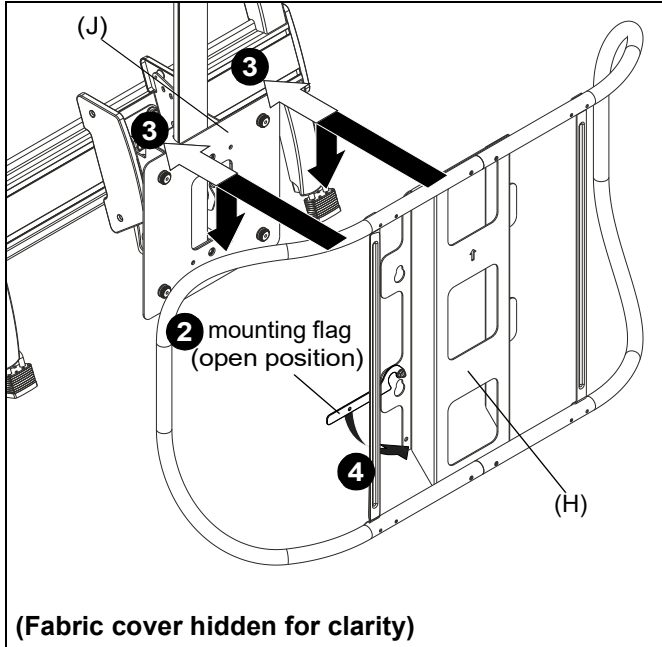

Figure 13
2. Make sure mounting flag on LCM upright (H) is in the "open" position. (See Figure 13)
3. Hang LCM upright (H) onto mounting buttons on back of LCM upright adapter (J). (See Figure 13)
4. Move mounting flag on LCM upright to the "closed" position. (See Figure 13)